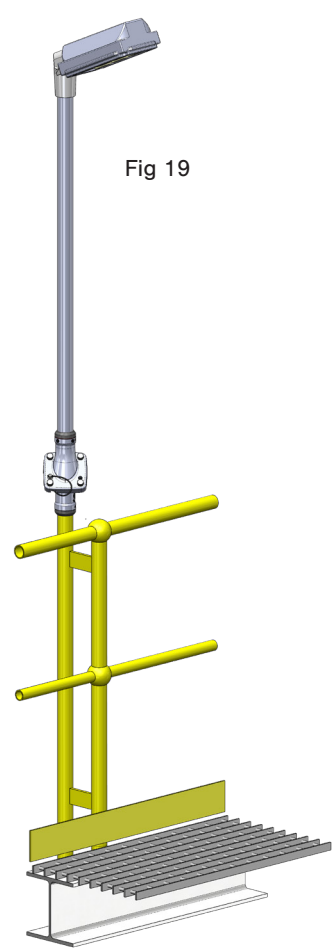

Fig 19
- ☐ Tighten the bolts evenly and alternately whilst ensuring the pole top is straight by manoeuvring vertically. (Fig 19)